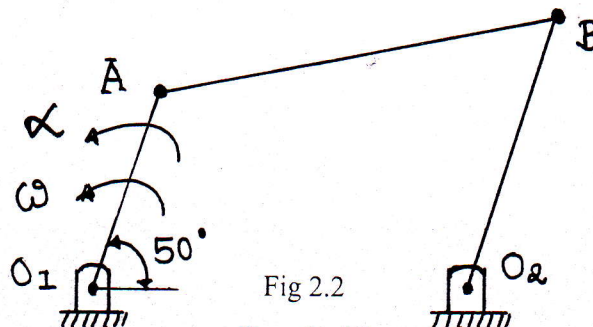

Fig 2.2
Q.5 Make a complete inertia force analysis of the four bar chain mechanism (Refer Figure 2.2) (10)